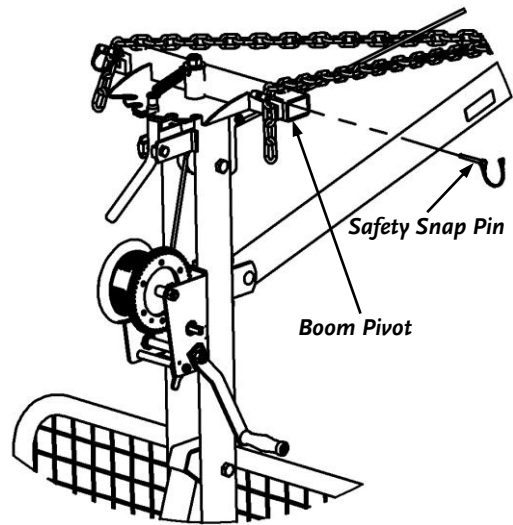

Figure 36
7. Have a second person lift the Boom then hook the fourth link of the Left and Right Chains into the Boom Pivot (**Figure 36**) and insert a Safety Snap Pin in the Boom Pivot on both sides to secure the Chains (**Figure 36**).